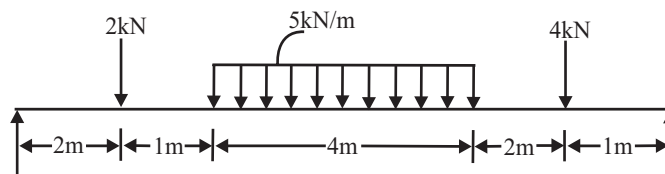

Fig. 3
- (c) A simply supported beam is subjected to various loadings as shown in Fig 3. Sketch the shear force and bending moment diagrams showing their values at significant locations.